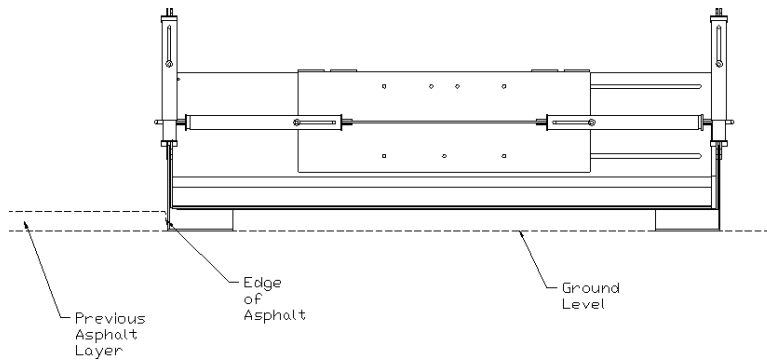
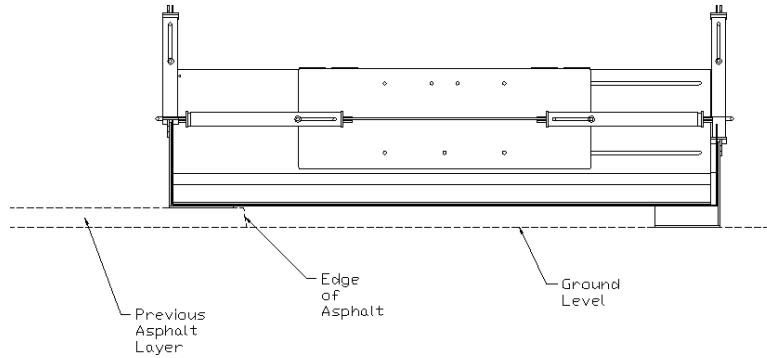

FIGURE 1 – SIDE BY SIDE
FIGURE 2 – OVERLAP
- Allows material to be applied in side by side paths. In situations such as paving a parking lot or spreading topsoil on a new yard, many side by side layers of material will need to be applied with no gap between each layer. There are 2 methods of accomplishing this. It is possible for an experienced driver to spread soft materials, such as sand, the thickness of the side of the material spreader apart from the previous layer. The side of the skid is only  $\frac{1}{4}$ " thick, making very little gap to fill in (see FIGURE 1). Hard materials such as dirt and asphalt can be spread by even a poor driver with no gap between layers by pulling one skid of the material spreader up on to the last layer of material that was spread. Adjust the depth of material on that skid to 0", and the Material Spreader will now match the next layer of material to the edge and thickness of the last layer. (see FIGURE 2)